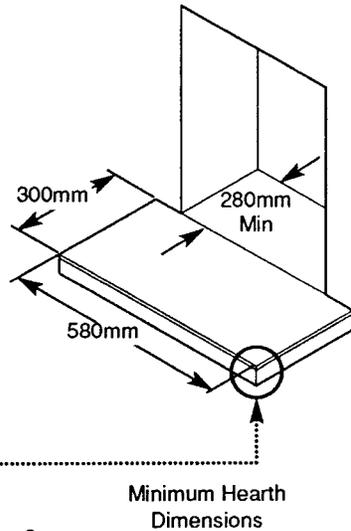

Fig. 6
1. The fire is intended to be hearth mounted only. The hearth must be of a non-combustible material at least 13mm ( 1/2 in) thick and measuring at least 300mm (11 13/16 in) deep by 580mm (22 27/32 in) wide. It must be fitted central to the fireplace opening. The top surface of the hearth should be a minimum of 50mm (2 in) above floor level (Fig. 6).